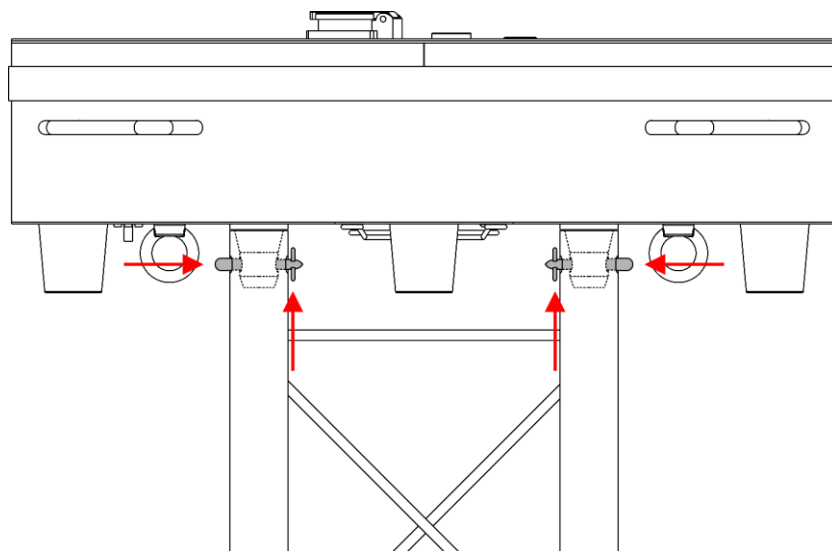

Fig. 12
- 05) Put the conical pins (D) into the openings on the truss and through the half connectors (A), as shown in Fig. 12.
- 06) Put the safety pins (E) into the opening on the conical pins (D) to secure the device to the truss, as shown in Fig. 12.